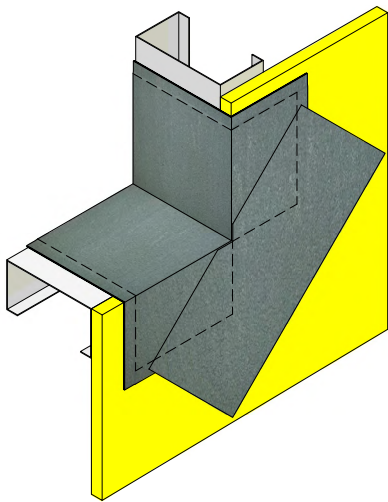

Figure 8
4. Apply additional Senershield-R/-RS/-VB over the areas to receive additional Sheathing Fabric. (See Figure 8)